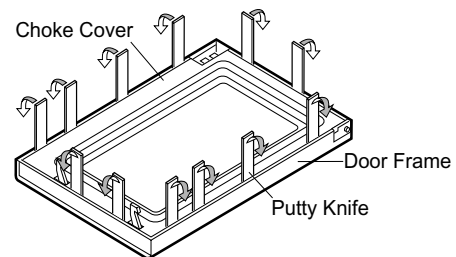

Figure C-4. Door Disassembly
3. Insert a putty knife (thickness of about 0.5mm) into the gap between the choke cover and door frame as shown in Figure C-4 to free engaging parts.
4. Pry the choke cover by inserting a putty knife as shown Figure C-4.
7. Release two (2) pins of door panel from two (2) holes of upper and lower oven hinges by lifting up.